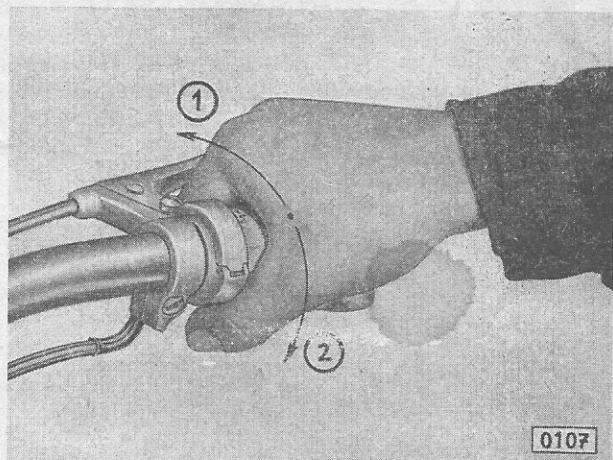

Fig. 7: Throttle twist grip:
1. Open throttle only slightly, i. e. turn twist grip a little (Fig. 7).
2. Slowly release clutch lever, at the same time opening the throttle (Fig. 7).